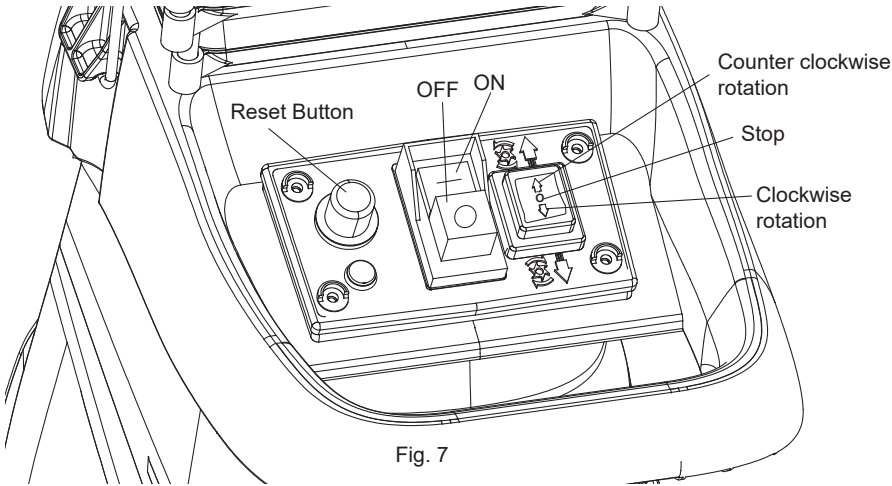

Fig. 7
Below picture is the switch control panel, See Fig. 7.
Stopping: (See Fig. 7)
If the wood chipper is blocked when it is working, please press the three-way switch to the "stop" position (the middle part of the three-way switch) immediately, and then press the reverse switch, then push the I/O switch to "O" to turn the garden shredder off after taking the blocked branches out. See Fig. 7.
2. Overload protection. See Fig. 7